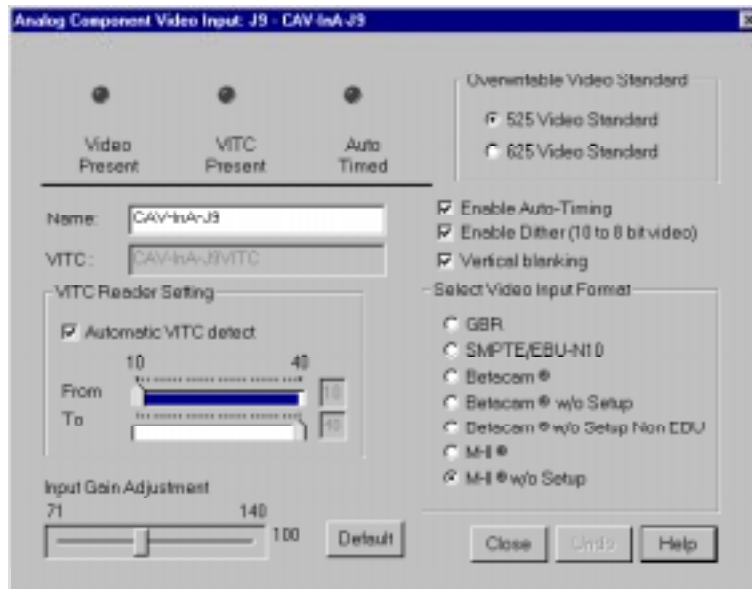

Figure 19. Component Analog Video Input dialog box (CAV)
1. Select **Video Input** from the configuration tree, and then click or double-click an analog component input from the list, such as *CAV-InA-J9*. The Analog Component Video Input (CAV) dialog box (Figure 19).